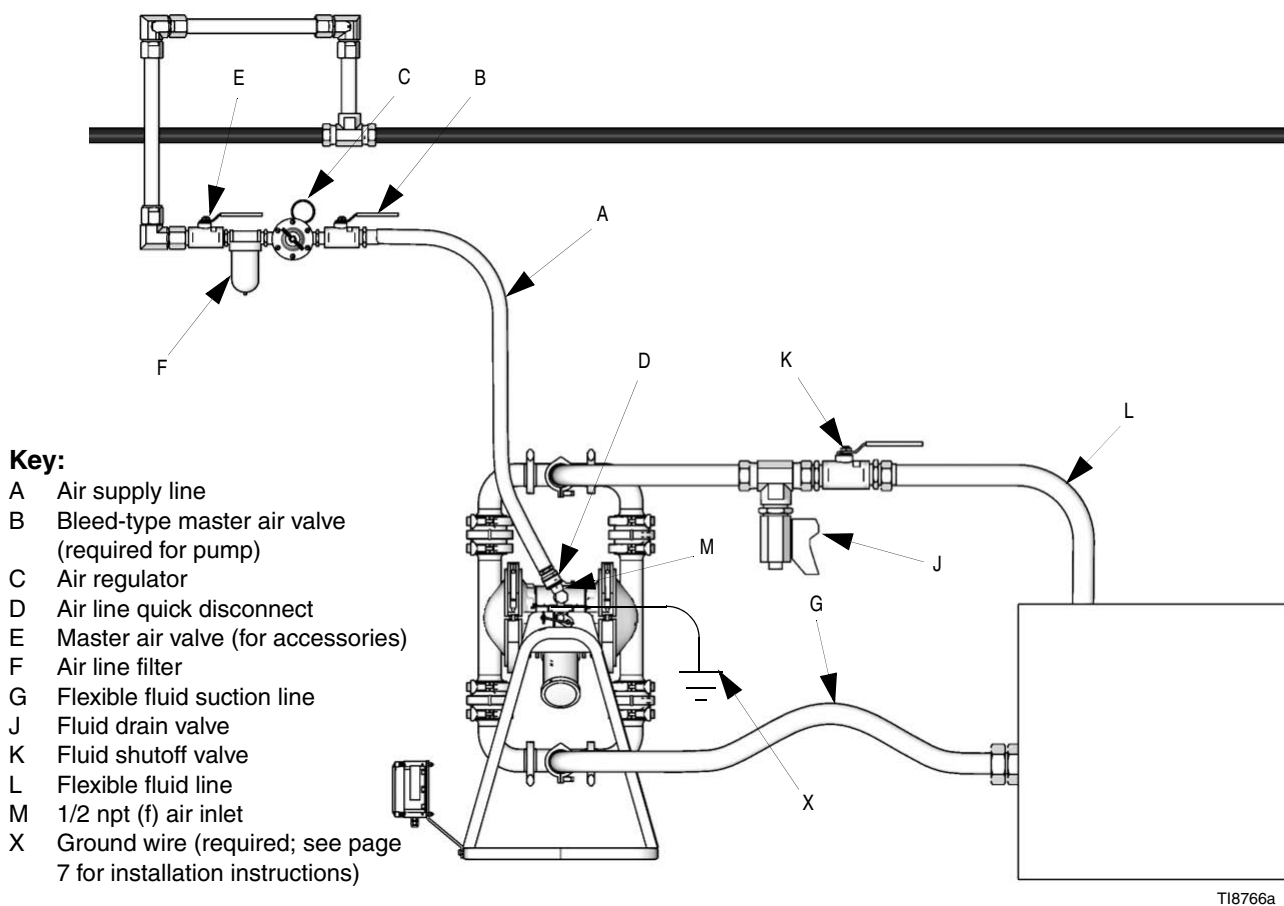

FIG. 3: Typical Floor-Mount Installation
- The typical installation shown in FIG. 3 is only a guide for selecting and installing system components. Contact your Graco distributor for assistance in planning a system to suit your needs.
<p>A bleed-type master air valve (B) is required in the system to relieve air trapped between this valve and the pump. Trapped air can cause the pump to cycle unexpectedly, which could result in serious injury including splashing in the eyes or on the skin, injury from moving parts, or contamination from hazardous fluids. See FIG. 3.</p>
1. Install the air line accessories as shown in FIG. 3. Mount these accessories on the wall or on a bracket. Be sure the air line supplying the accessories is grounded.
- a. Install an air regulator (C) and gauge to control the fluid pressure. The fluid outlet pressure will be the same as the setting of the air regulator.
- b. Locate one bleed-type master air valve (B) close to the pump and use it to relieve trapped air. Locate the other master air valve (E) upstream from all air line accessories and use it to isolate them during cleaning and repair.
- c. The air line filter (F) removes harmful dirt and moisture from the compressed air supply.
2. Install a grounded, flexible air hose (A) between the accessories and the 1/2 npt(f) pump air inlet (M). Use a minimum 3/8 in. (9.5 mm) ID air hose. Screw an air line quick disconnect coupler (D) onto the end of the air hose (A), and screw the mating fitting into the pump air inlet snugly.
A fluid drain valve (J) is required to relieve pressure in the hose if it is plugged. The drain valve reduces the risk of serious injury, including splashing in the eyes or on the skin, or contamination from hazardous fluids when relieving pressure. Install the valve close to the pump fluid outlet. See FIG. 3.
1. Use flexible, grounded fluid hoses (L) where possible.
3. Install a fluid drain valve (J) near the fluid outlet. See FIG. 3.
4. Install a shutoff valve (K) in the fluid outlet line.